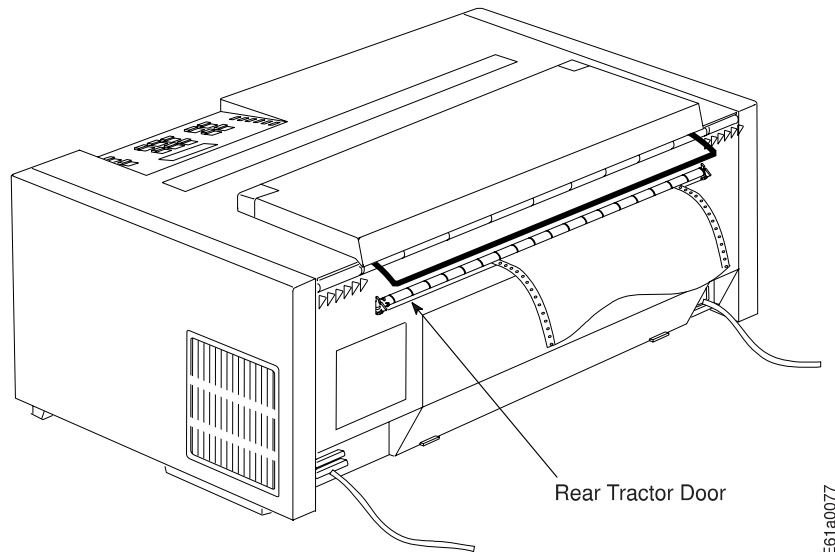

Figure 40. Forms Exiting Rear of Printer
23. Ensure the forms exit through the rear tractor door (see Figure 40 on page 70).